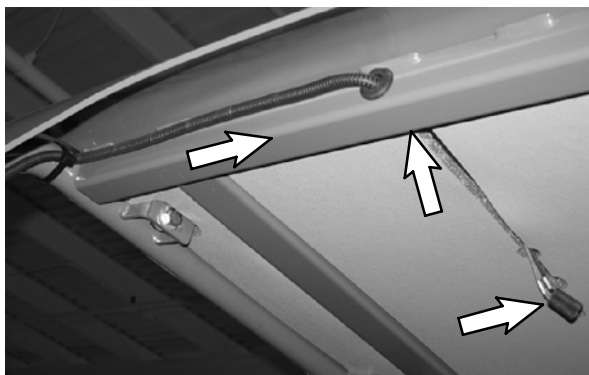
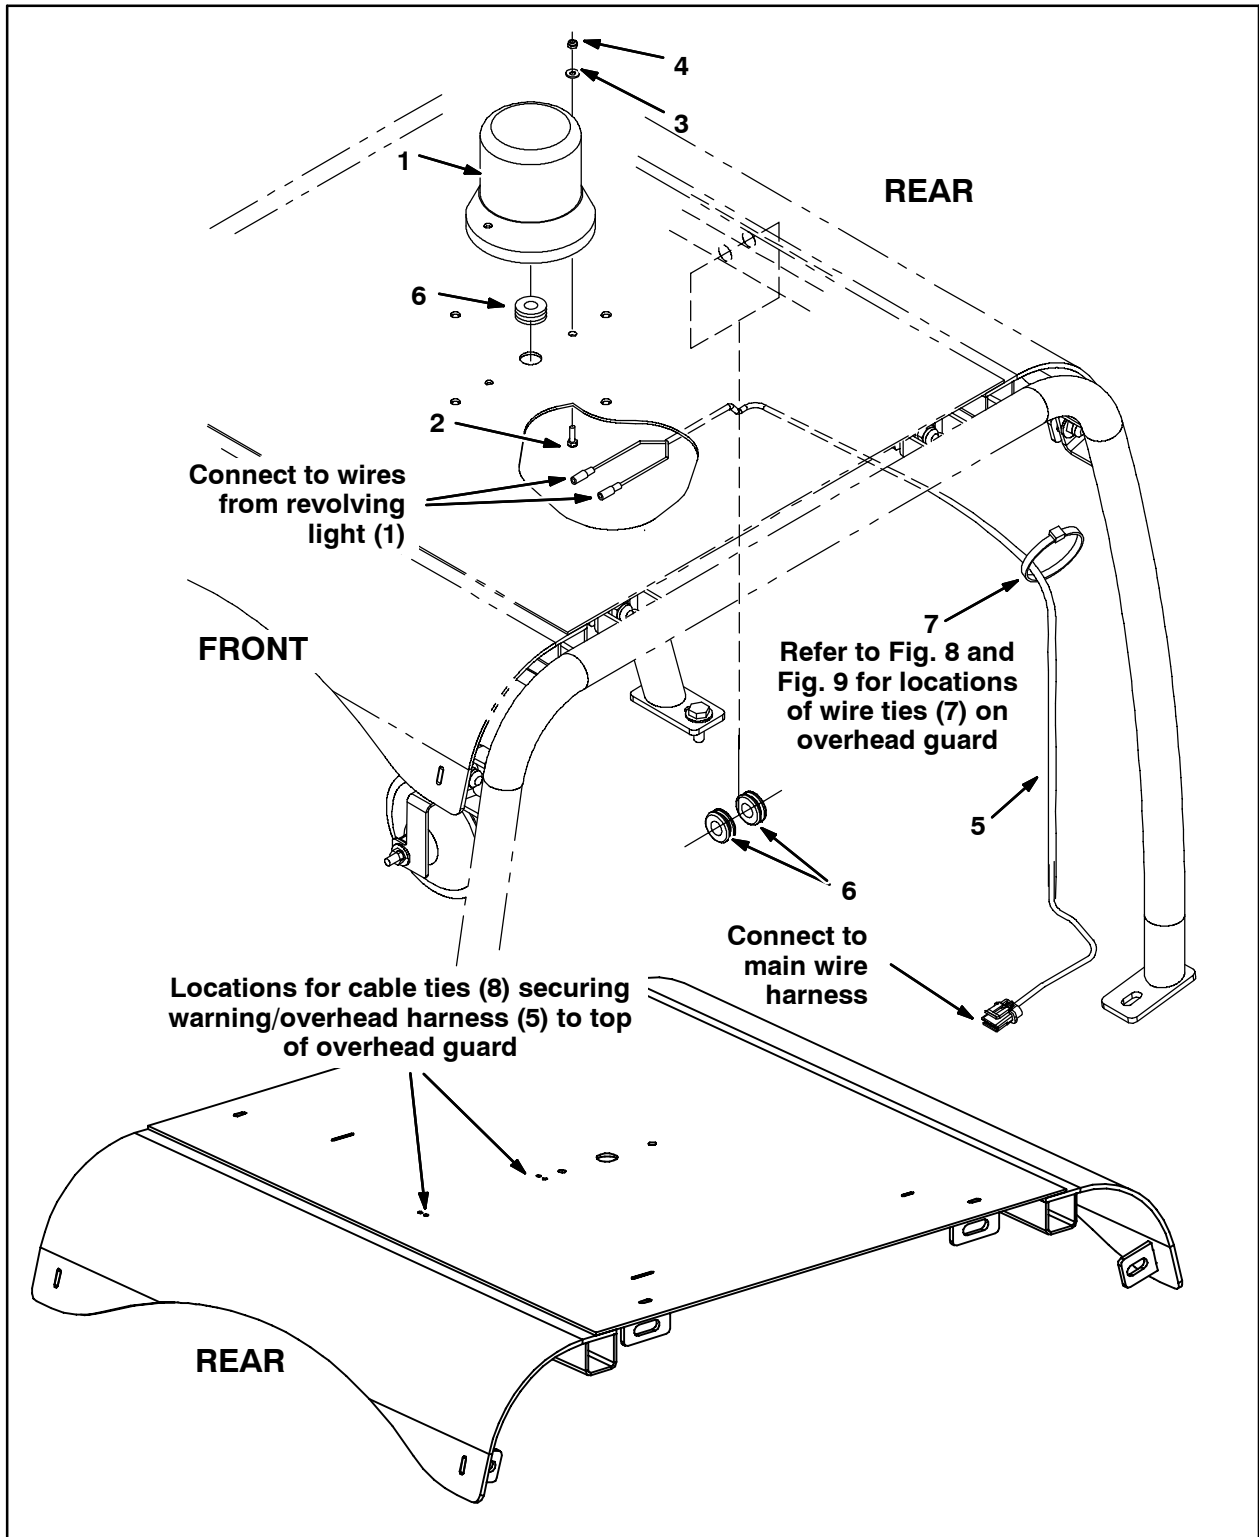
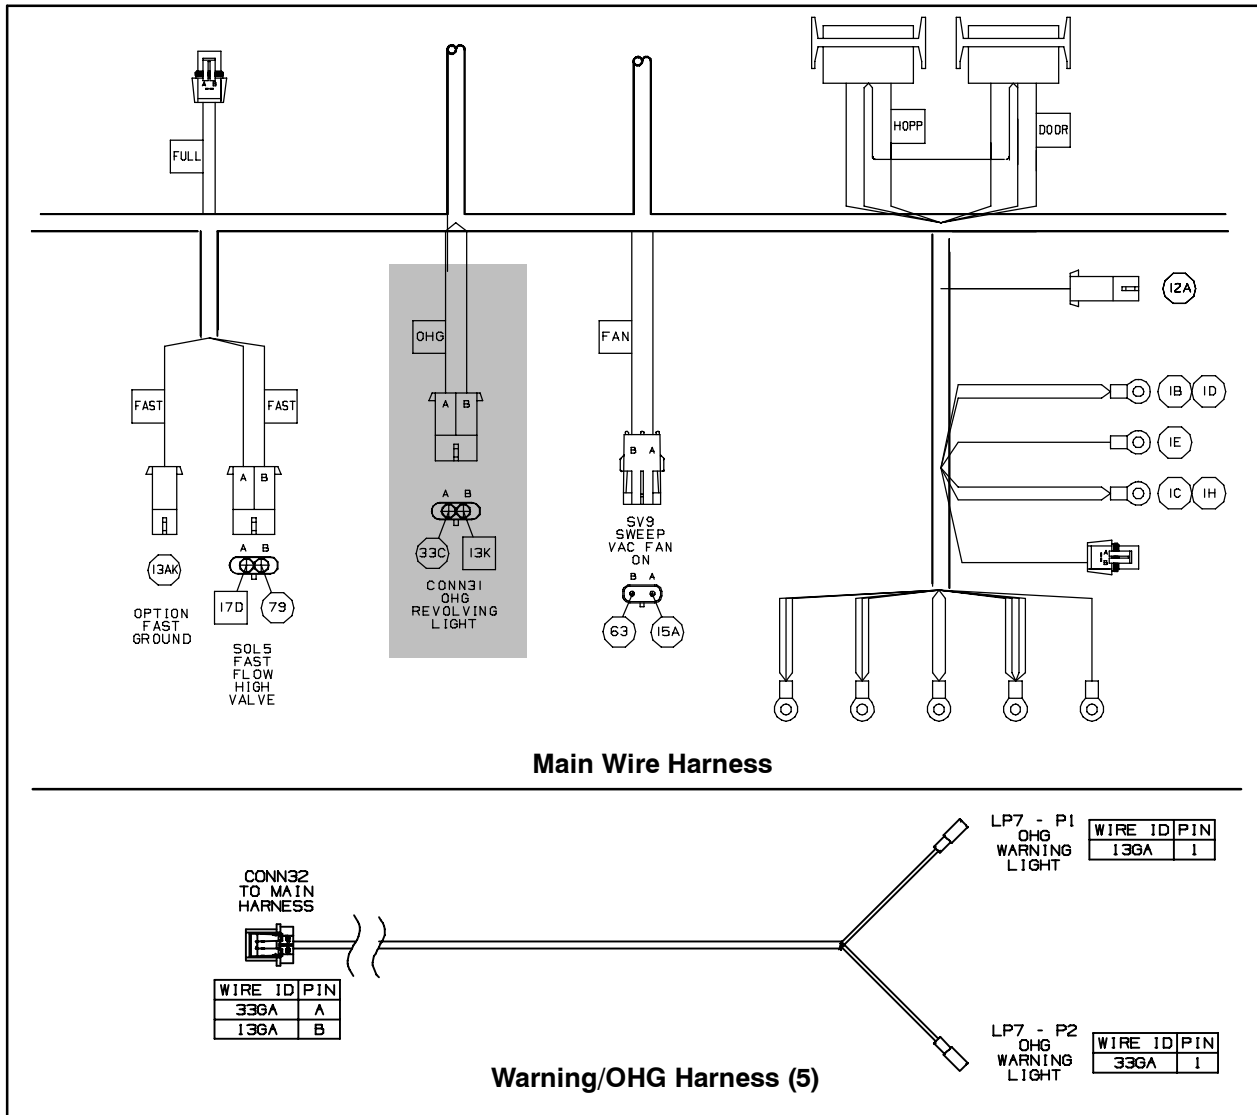

FIG. 7
FIG. 10
FIG. 11
4. Connect the warning/overhead harness (5) to the main wire harness, route the warning/overhead harness through the grommet installed in the operator compartment panel, up along leg of the overhead guard, and to the rear cross member of the overhead guard. (Fig. 10 and Fig. 11)
7. Route the warning/OHG harness (5) through the notch in the overhead guard insulation and connect the warning/OHG harness to the light (1). (Fig. 7 and Fig. 11)
9. Use two cable ties (8) to secure the warning/overhead harness (5) to the top of the overhead guard. (Fig. 10)